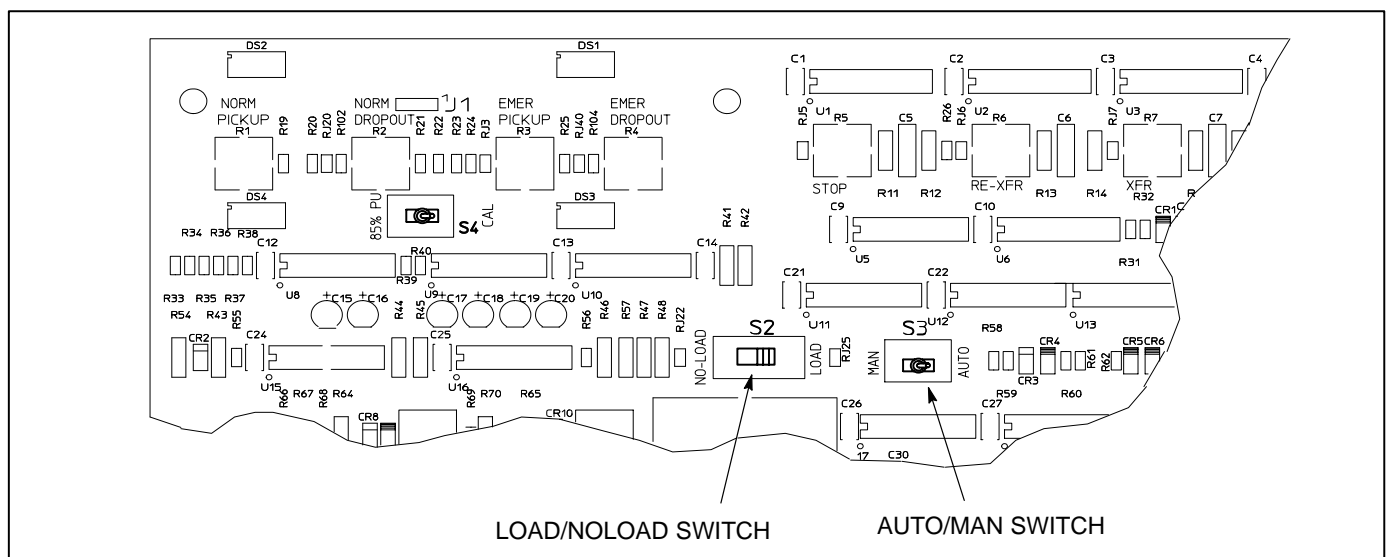

FIGURE 4–1. CONTROL CIRCUIT BOARD
1. Move the Load/No-Load switch on the control circuit board to the Load position (Figure 4–1).